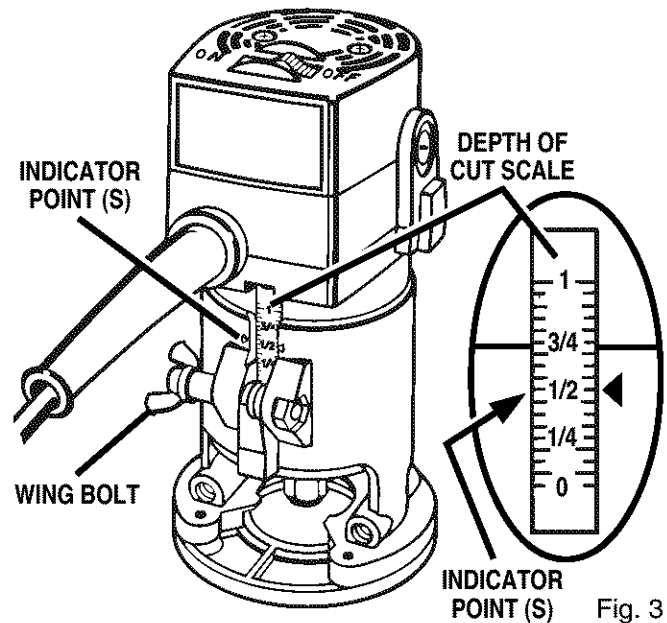

Fig. 3
See Figure 3.
- Loosen the wing bolt and move the base until the tip of cutter touches the work surface. The depth of cut is zero at this point. See Figure 3.